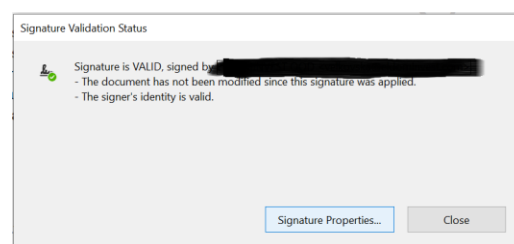

Figure 15 - Signature properties
Step 2: click on the seal logo from a signed document and further on your signature properties, as shown in Figure 15.